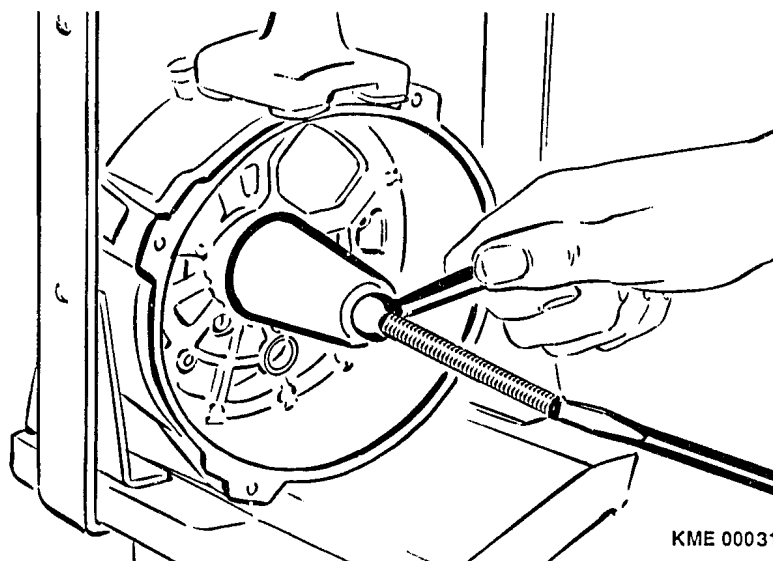

Figure 16 Bearing and Seal Removal
4. Screw on the handle, rotate until the bearing, and seal come out of the collector end shield. (Figure 16)